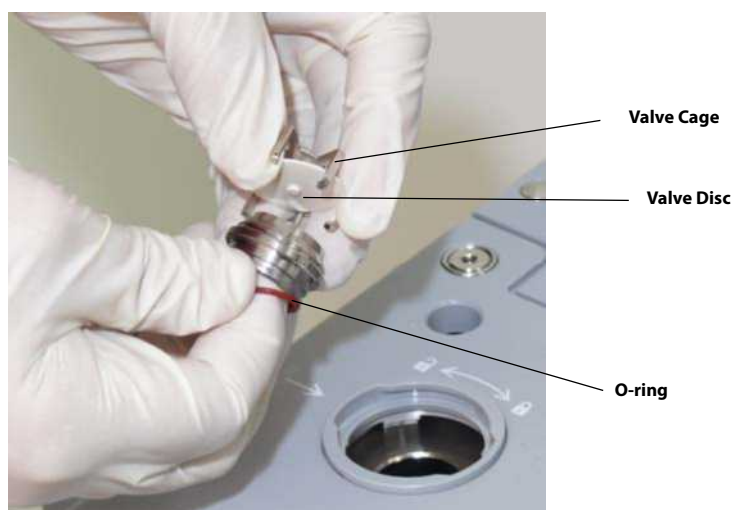

FIGURE 7-12 Valve Cage Removal
2. The valve cage will be removed in this step (refer to FIGURE 7-12). The six prongs of the valve cage have tabs that secure it in the valve assembly. While noting the previous **CAUTION**, use two hands to remove the valve cage by gently manipulating the prongs to release the tabs. As the valve cage is lifted away from the assembly, ensure that the valve disc does not fall out.
3. Remove the valve disc from the valve cage as shown in FIGURE 7-12.
4. Remove the O-ring from the bottom of the valve assembly as shown in FIGURE 7-12.